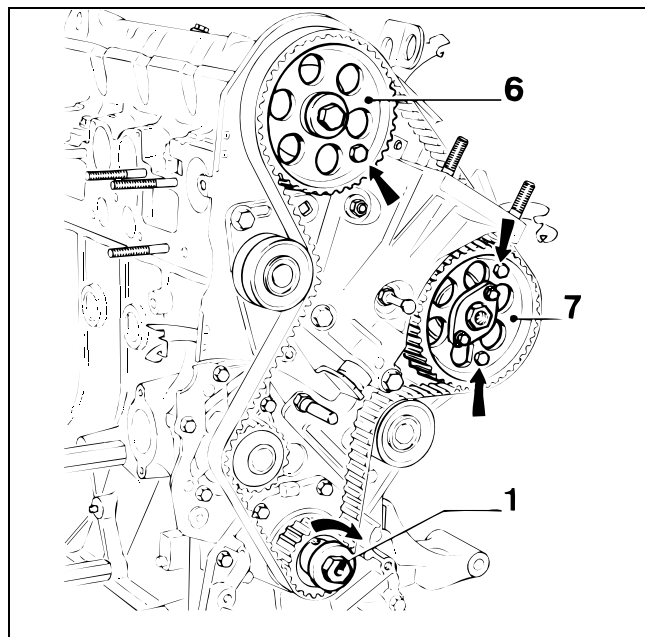

Figure 53
A. Lock the camshaft gear (Fig. 53, Item 6) in position with a M8 x 125 x 40 bolt. Tighten finger tight.
4. Remove the three locking bolts (Fig. 53).
17. Check to make sure the three lock bolts fit in the cam pulley and injection pump pulley (Fig. 53).